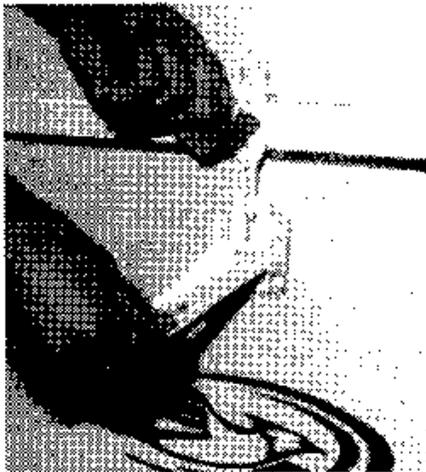

Fig. 1
1. Unlatch all roof latches. See Fig. 1
CAUTION: Never attempt to crank or use the power lift system to raise the roof until all latches are unlocked and free. Fig. 1. Never lift roof with cargo in place.